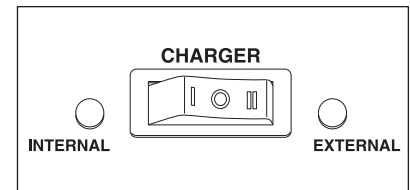

Fig. 5
- If the voltage is above 5V, plug the power cord of the RESCUE 4000/4050 into a 120V AC outlet and set the rocker switch on the front of the unit to EXTERNAL. (Fig. 5)